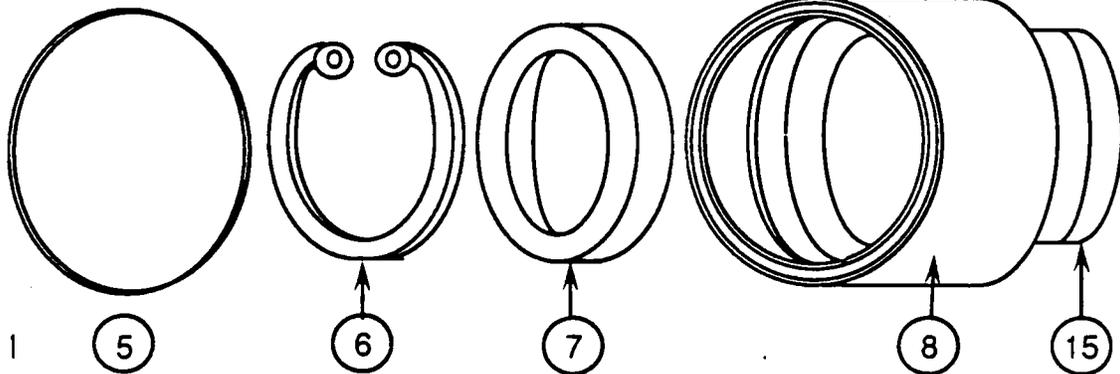

FIG. 1
1. Screw tail piece assembly fig.1 (items 5, 6, 7 and 8) into ballvalve (item 9).
2. Refer to Figure 1. Form the plate into a hoop. Insert the four 8-32 studs on one end of the plate into the slots on the other end. Loosely attach the holding strap to the four studs with the flat washer, Bellville washer and nut. Compress the hoop to its smallest diameter and tighten the nuts on the holding strap.